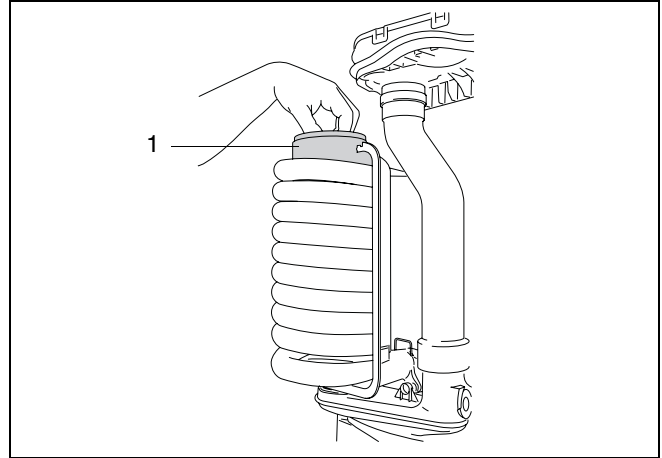

fig. 57 Remove flue gas retarder
- Remove the flue gas retarder from the heat exchanger (→ fig. 57, item 1).